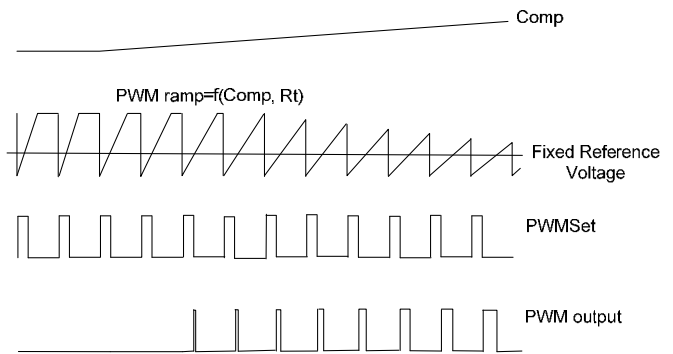
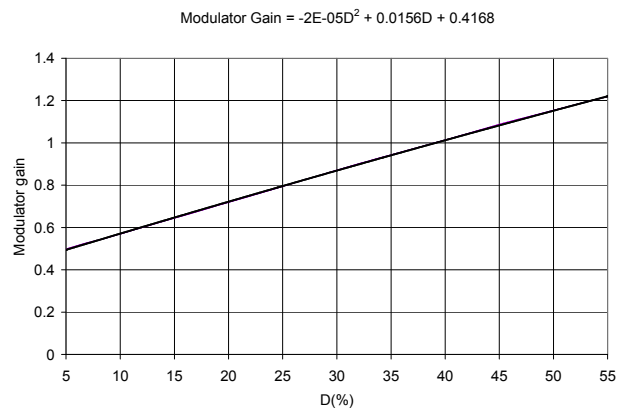

Figure 14: Theoretical waveforms for the new PWM scheme
Figure 15: Modulator gain (F_m) v/s Duty Ratio (D%)
Figure 14 shows theoretical waveforms for the PWM ramp and the PWM output in response to a changing Comp voltage. Figure 15 shows the variation of the modulator gain (F_m) with the duty cycle (D).